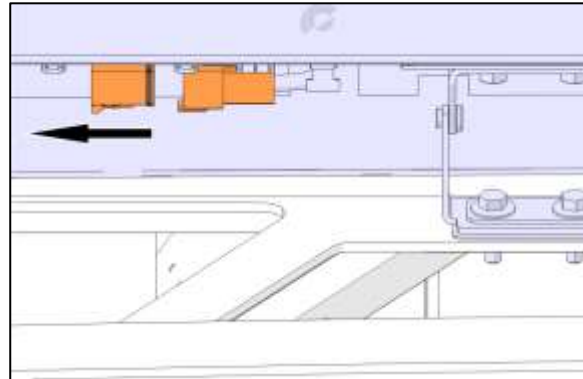

Figure 3: C12 Connector Pair
- Unplug connector pair C12. (Figure 3)
Slide pin housing connector off the clip-on mounting. (Figure 3)